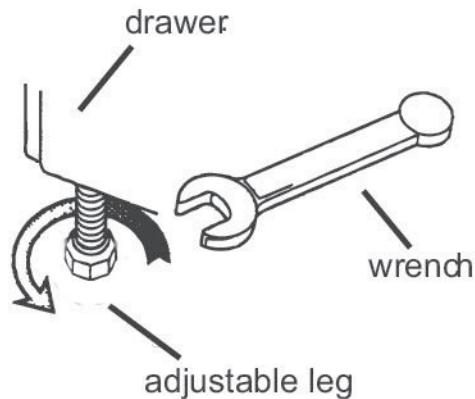

Figure 6: Adjusting range height
- To avoid scratching the countertop, check and, if necessary, adjust the height of the range by adjusting the range feet (see Figure 6: Adjusting range height).